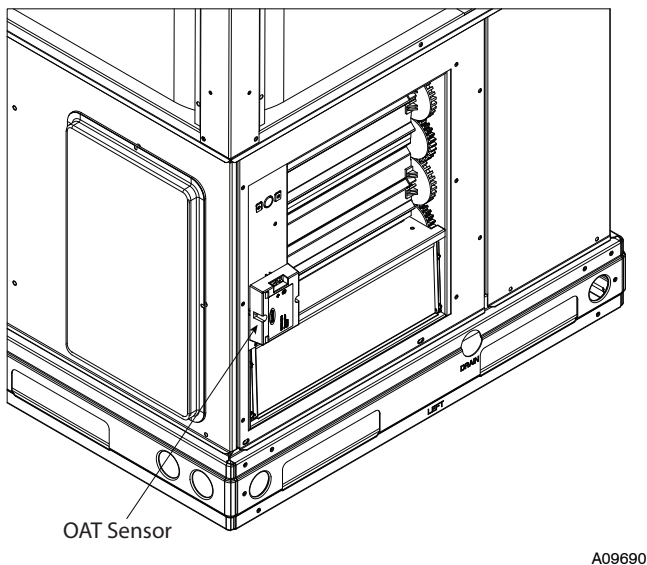

Fig. 23 - Oat Sensor Installed
4. Remove red shipping tape that attaches the outside air temperature (OAT) sensor to the economizer assembly. Using two #8 fasteners, found in the hood package, attach the OAT sensor to the economizer according to Fig. 23.